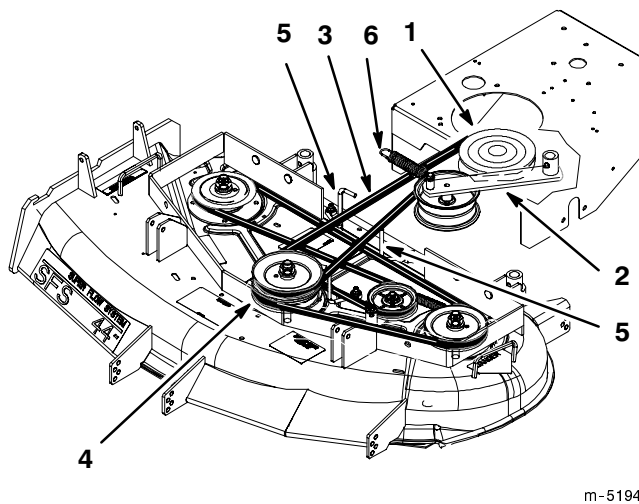

Figure 63
4. Remove the idler spring from idler arm. Remove the drive belt from the PTO engagement pulley and the center spindle pulley (Fig. 63).
5. Remove the worn drive belt (Fig. 63).
6. Install the new drive belt onto the PTO engagement pulley and the top groove of the center spindle pulley (Fig. 63).
7. Install belt onto idler pulley and then install idler spring (Fig. 63).
8. Adjust PTO drive belt guides an 1/8 in. from belt (Fig. 63).